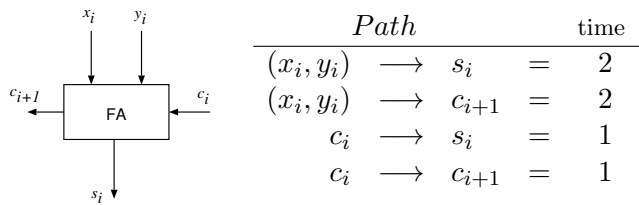

Figure 2: Full-Adder (FA): Delays.
2. Estimate the delay for the single operation in the four modes assuming the delays in Figure 2 for the full-adder (FA), the basic block of the 8-bit CRA.